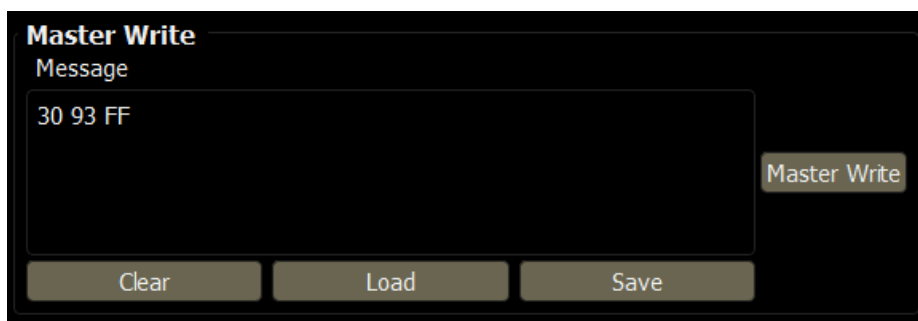

Figure 6.10. I2C Controller Write Procedure
5. Enter the data and address into the message box – two bytes of address and one byte of data as shown in Figure 6.10. For example, to write address 0x3093 with 0xFF data, then enter *30 93 FF* into the message box.